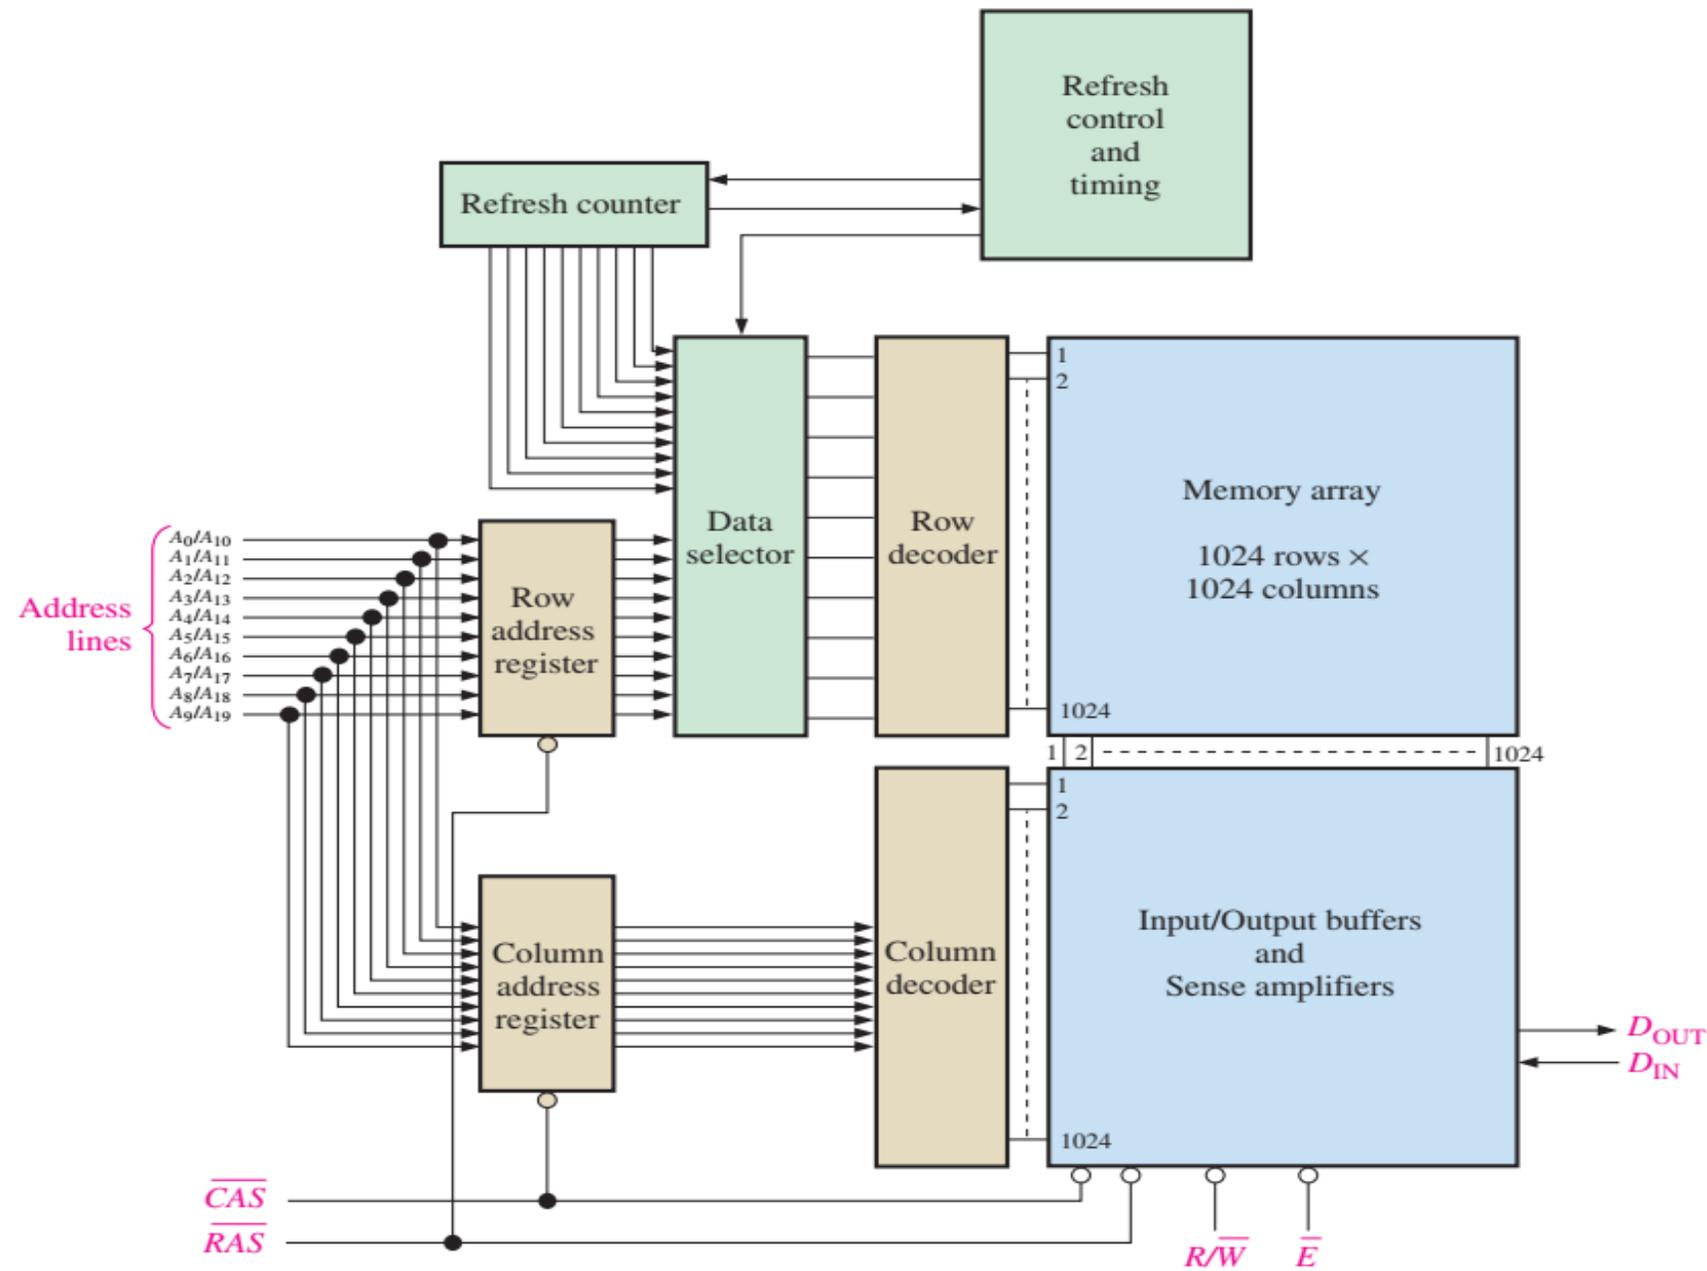

Figure 2-16
- Figure 2-16 shows the simplified block diagram of a 1M x 1 DRAM.